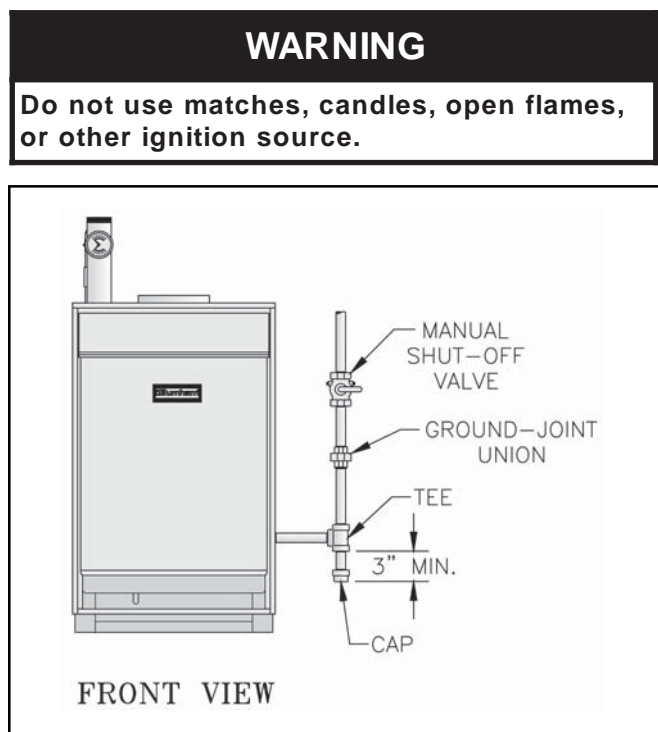

Figure 26: Recommended Gas Piping
3. Install sediment trap, ground-joint union and manual shut-off valve upstream of boiler gas valve and outside jacket. See Figure 26.